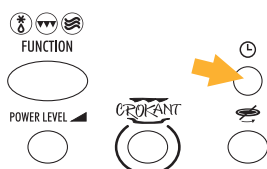

fig. 11
- 7) **Do not cook eggs in their shells (fig. 11):** the pressure which builds up on the inside would cause the egg to explode, even after cooking has finished. Do not heat up eggs which have already been cooked, unless they are scrambled.